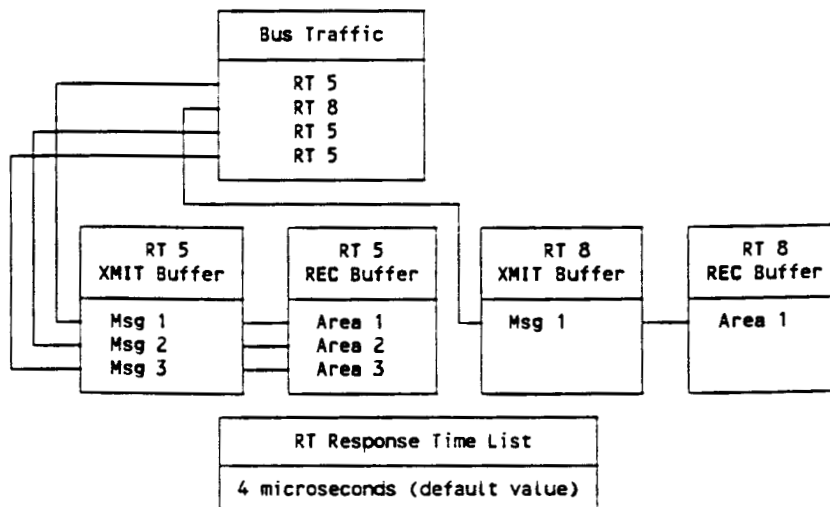

Figure 455-4: RT Simulator Example
Figure 455-4 is a simplified memory map to aid in understanding the operation of the 73A-455 Module in the following example. The block at the top of the figure defines the order in which the bus controller will send messages to the 73A-455 Module in this example.
- 1) The first message received by the 73A-455 Module (message 1) is decoded and found to be a transmit command to RT 5. The received message is therefore a single command word, and is stored in RT 5's receive buffer (Area 1 in Figure 455-4).